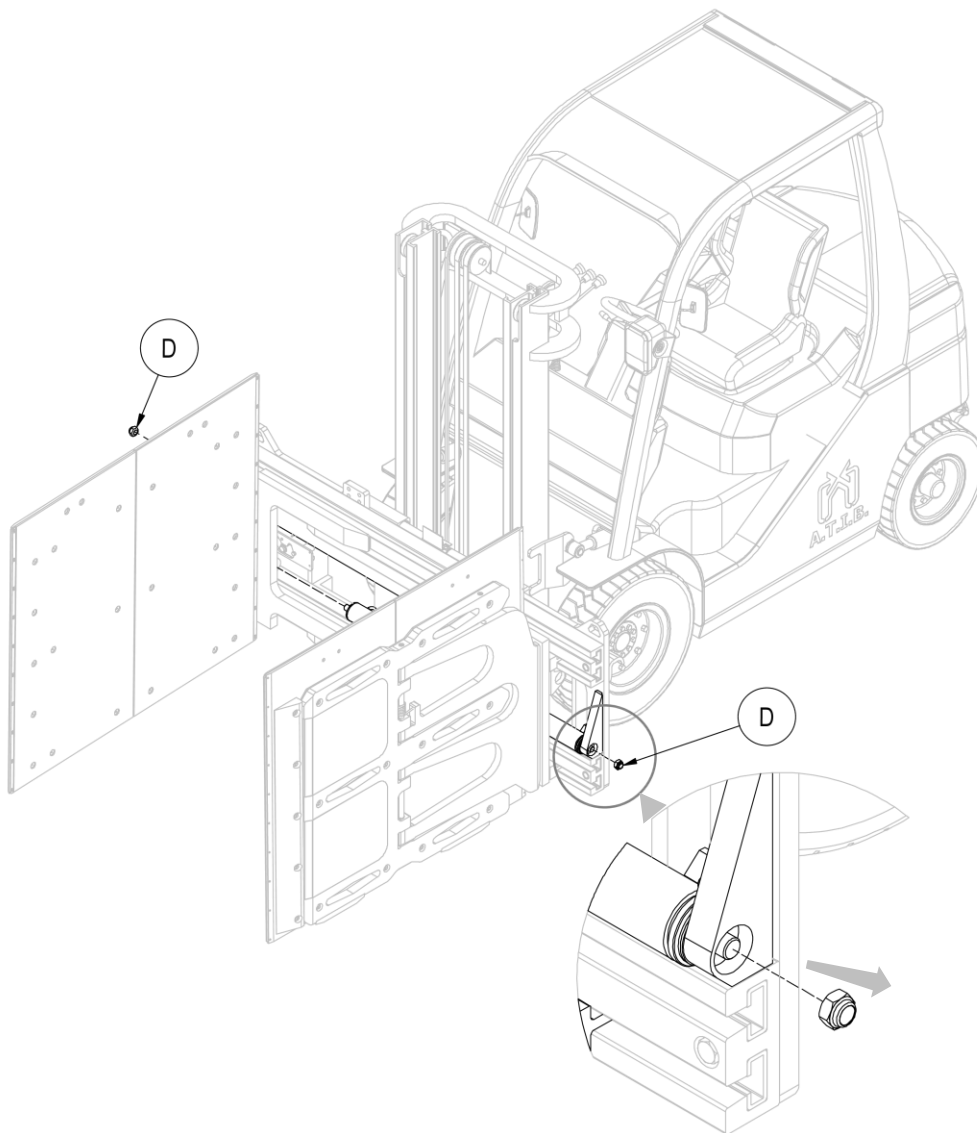

Figure 92
7. Remove the nuts **D** that secure the cylinders to the equipment assembly and remove the cylinders, taking care not to damage them (see *Figure 92*).